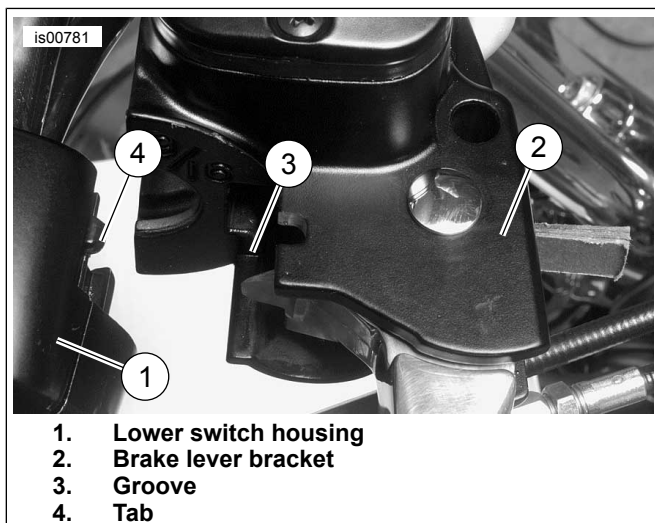

Figure 13. Brake Lever/Master Cylinder Fit to Right Handlebar Lower Switch Housing
11. See Figure 13. Position brake lever/master cylinder assembly inboard of the switch housing assembly. Engage the tab on lower switch housing in groove at top of brake lever bracket.